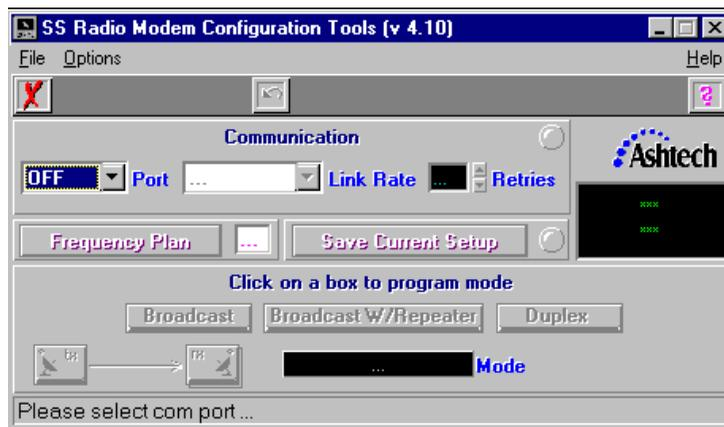

Figure 3.3: SSRadio Modem Configuration Tools Window
6. The SSRadio Modem Configuration Tools window appears, as shown in Figure 3.3.